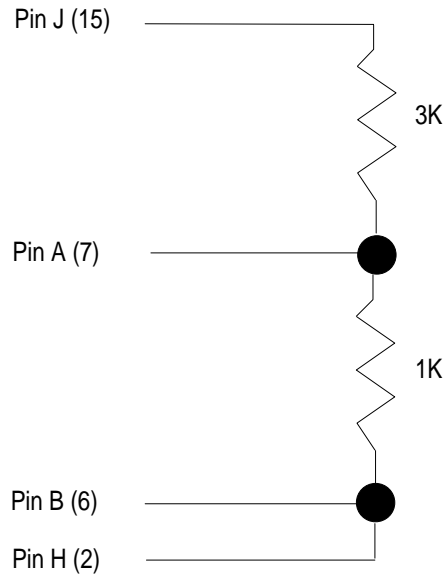

Figure 4: Sensor Cable Plus Two Resistors
5. Connect two resistors to the sensor cable, as shown in Figure 4.